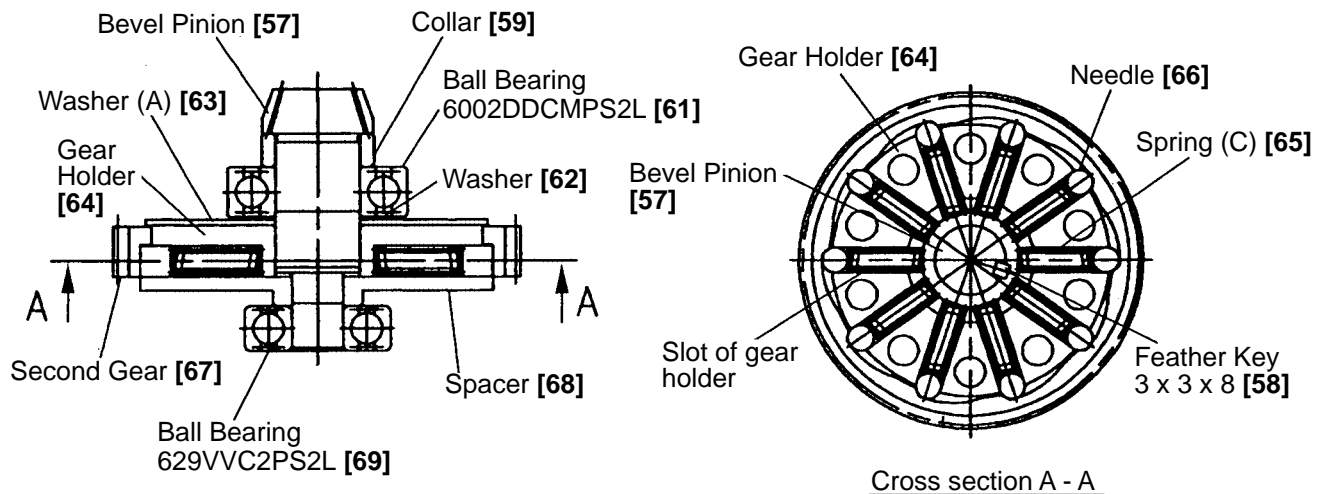

Fig. 20
(4) Reassembly of the slip clutch
Press-fit the Bevel Pinion [57] into the Collar [59] and the Ball Bearing 6002DDCMPS2L [61] then insert it into the Washer [62] and Washer (A) [63]. Mount the Feather Key 3 x 3 x 8 [58] to the Bevel Pinion [57] then press-fit into the Gear Holder [64]. Mount the Second Gear [67] around the outer circumference of the Gear Holder [64]. Before mounting, apply Hitachi Motor Grease No. 29 to the inner circumference of the Second Gear [67]. Insert the ten Needles [66] being careful not to incline them, then push in ten Springs (C) [65] as shown in Fig. 20. Fill the slots and the through holes of the Gear Holder [64] with Hitachi Motor Grease No. 29. Press-fit the Bevel Pinion [57] into the Spacer [68] and the Ball Bearing 629VVC2PS2L [69].